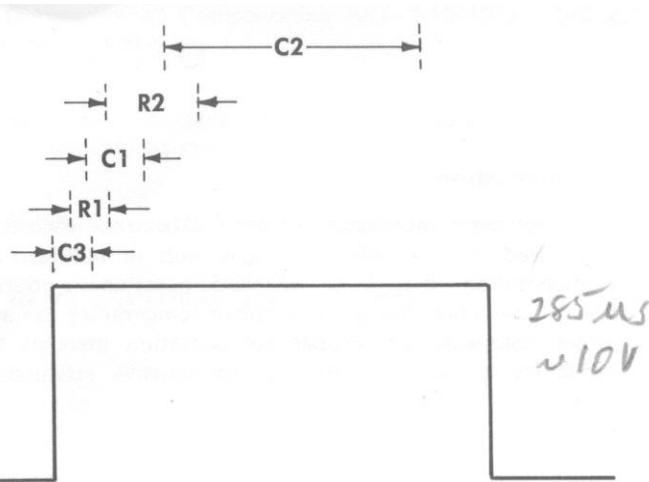
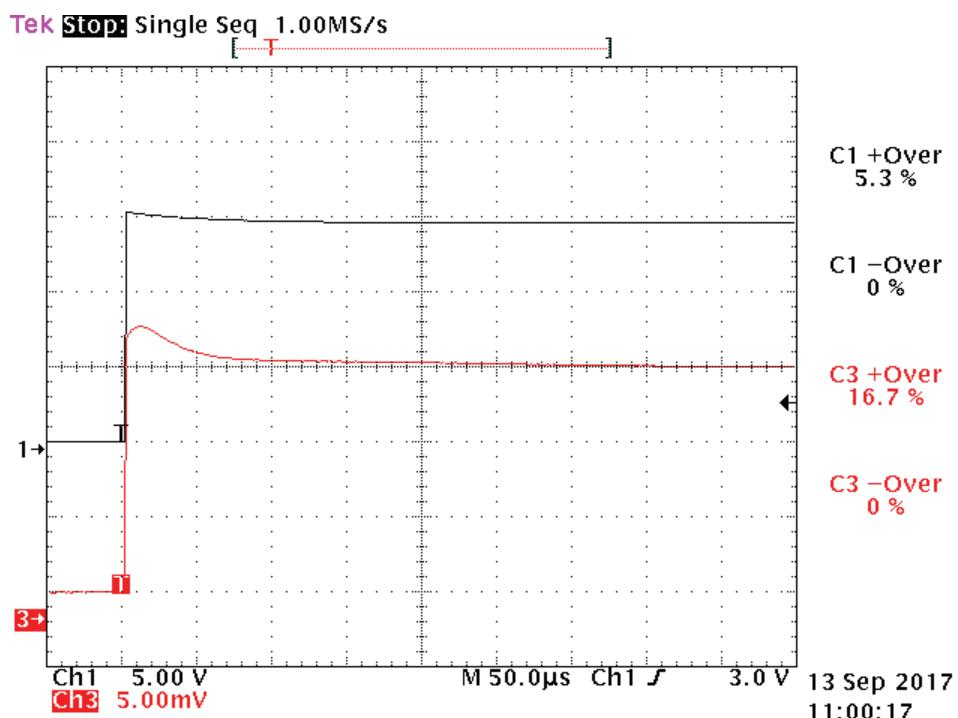

Figure 6. Effect of compensation RC's on the pulse wave form.
Figure 7. Pulse comparison prior to adjustment of R1, C3, and C1.
- 2. Long-Pulse Compensation (leading edge):** Apply a 20- to 40-V, $\approx 300\text{-}\mu\text{s}$ pulse directly to the probe tip. Here, we employed a Tektronix model PG-507 generator. Set the sweep rate to $50\text{ }\mu\text{s}/\text{div}$. Referring to Figure 6, progressively adjust R1, C3, and C1 for the sharpest leading corner. Leading-edge undershoot or overshoot should be minimized. It may be necessary to repeat these adjustments in the order given to achieve optimum result. Figure 7 shows a comparison of the two probes prior to adjustment. Distortion on the reference wave form (channel 1) arises from the slight inductance of the flying leads used to connect the pulse generator.